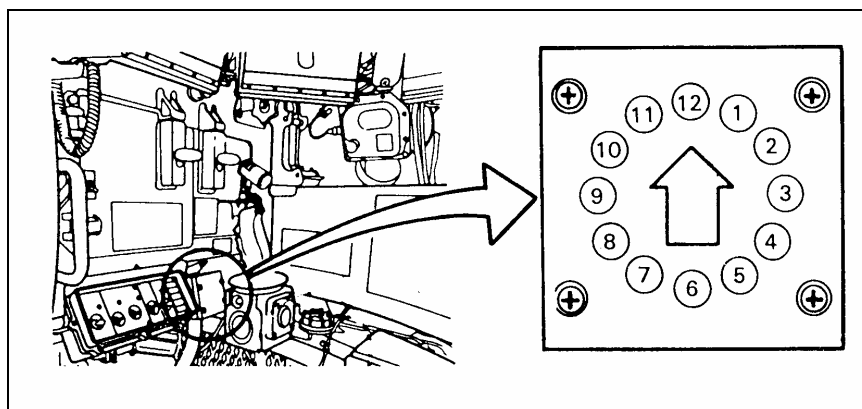

Figure 7-9. Turret position indicator.
(1) The leader assigns a sector of fire to cover possible enemy avenues of approach. He should overlap sectors to provide the best use of overlapping fire and to cover areas that a single weapon system could not engage alone.
(2) The leader assigns left and right limits of a sector using prominent terrain features or easily recognizable objects such as rocks, telephone poles, fences, or emplaced stakes.
(3) To find the left and right limits, the gunner should index the TOW into the ISU, because that reticle position does not induce superelevation into the fire-control system. When the leader selects ammunition, and the range changes, superelevation changes the fields of view between APDS-T, HEI-T, and coax. Using the TOW reticle allows the gunner to scan his sector without changing ammunition and range settings while scanning.
(4) The turret-position and azimuth indicators (Figures 7-9 and 7-10, page 7-22) also help in determining sectors of fire. The platoon leader designates ammunition for each TRP and reference point as prescribed by the platoon SOP or METT-TC.